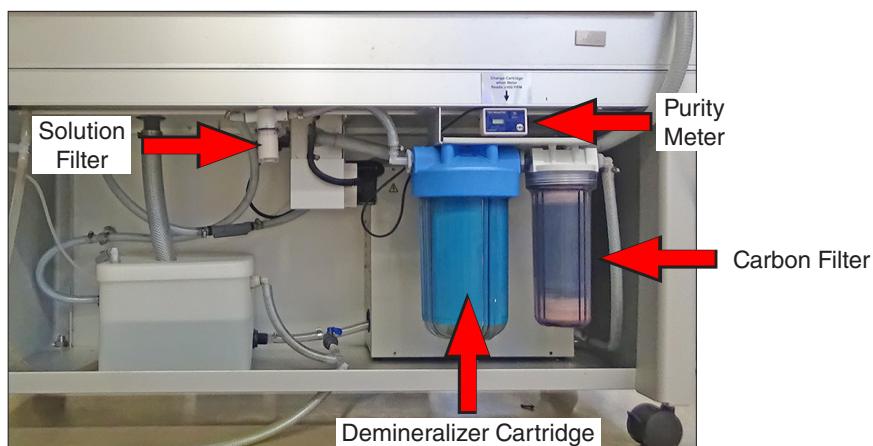

Figure 14.5a: QUV with integrated repurification system.
- Inspect the solution filter every 6 months (Figure 14.5a).
- The water purity meter (Figure 14.5a) should be checked once a month, and when the Total Dissolved Solids are greater than 1 ppm the demineralizer cartridge should be replaced with part number V-4979.